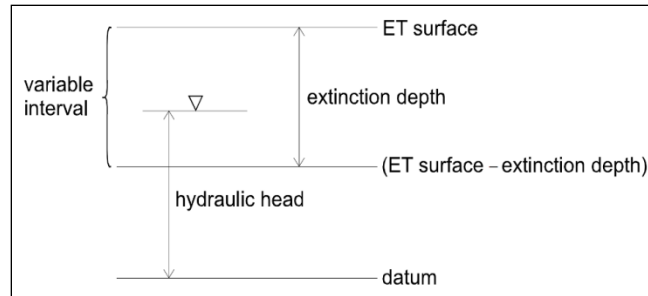

Figure 1 ET model, from Banta (2000)1
The EVT package—which has existed since at least MODFLOW 88—requires three parameters to determine evapotranspiration: the evapotranspiration (ET) surface elevation, the maximum ET rate, and the extinction depth. When the head in a cell is at or above the ET surface, ET occurs at the maximum ET rate. When the head is below the extinction depth, ET is zero. In between these two points, the ET varies linearly (Figure 1).